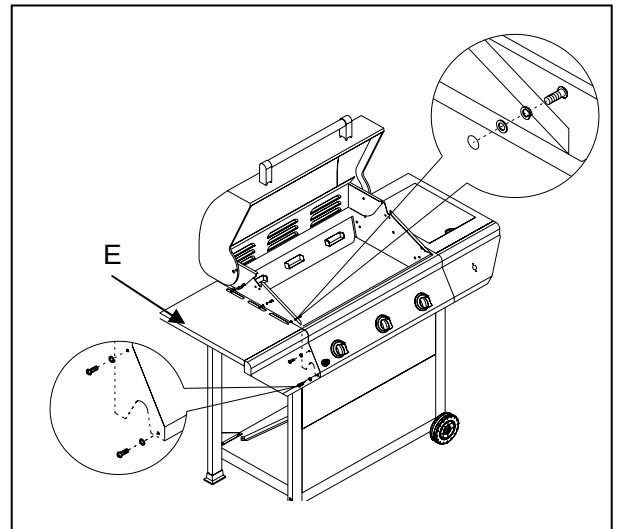

Fig. 14
- Remove the two 4mm screws with locking washers that are pre-attached to the valve. Then place the Bezel (L) on the Side Burner Shelf (D) control panel. From underneath, insert the side burner valve into the Side Burner Shelf (D) control panel and Bezel (L). Align the holes in the Bezel (L) with holes in the valve and attach with two 4mm screws. The two screws hold the bezel, control panel, and valve together. As shown in Fig. 14.